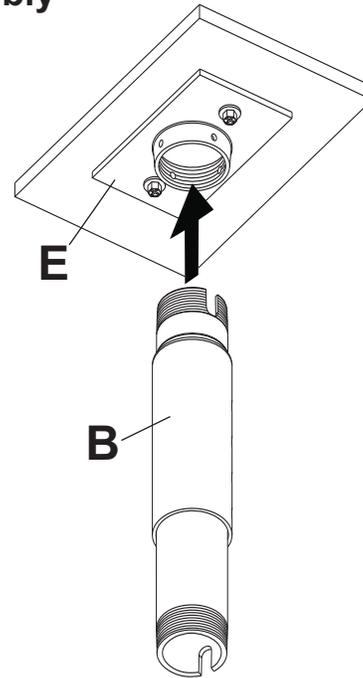
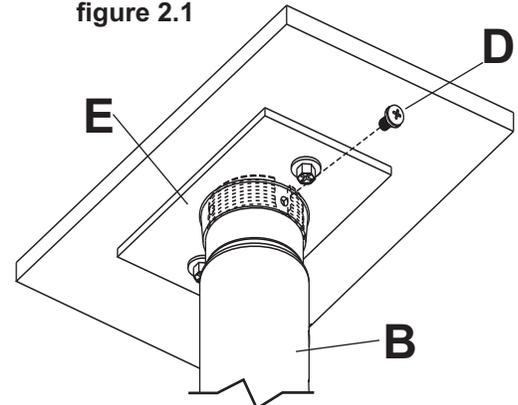

figure 2.1
figure 2.2
- 2** Thread adjuster tube (B) into threaded fitting on ceiling plate (E) as shown in **figure 2.1**. Tighten securely aligning slot in end of adjuster tube (B) with one of the holes in the side of threaded fitting on ceiling plate (E). Insert and tighten one M5 x 10mm phillips screw (D) to lock adjuster tube (B) to threaded fitting on ceiling plate (E) as shown in **figure 2.2**.